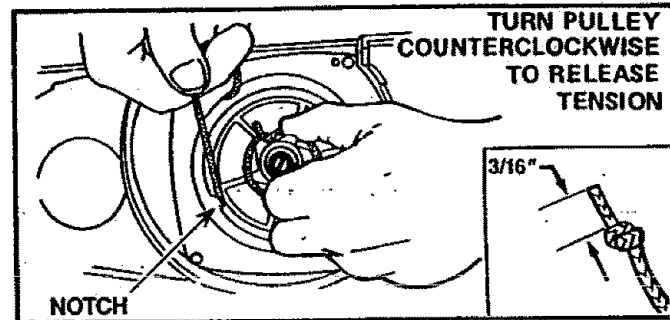

Figure 49
3. If the starter rope is not broken, release the spring tension by pulling about 12 inches of rope from the pulley and catch the rope in the notch as shown. Figure 49.
4. Turn the pulley counterclockwise until the spring tension is released. Figure 49.
9. Insert one end of the rope through the handle and secure with a knot. Leave 3/16" pigtail behind knot. Figure 49 (inset).